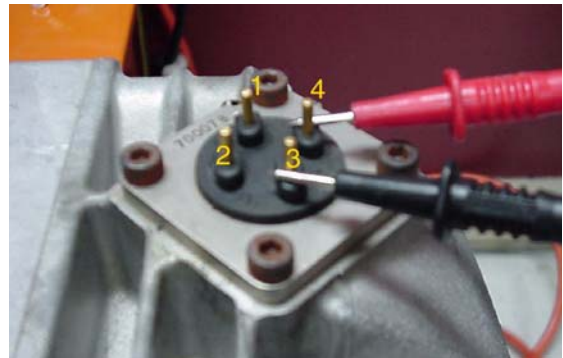

Figure 4-59 IGV Resistance Measurement (2 of 2)
5. Measure the resistance across pins 3 and 4, as shown in Figure 4-59. The meter should show a reading of $52.4\Omega \pm 10\%$.